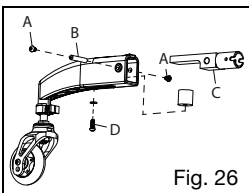

Fig. 26
2. Remove the 6mm screw from the side of the Dynamic 5th Wheel arm (Fig. 26:A) using two 4mm Allen wrenches.
3. Using an Allen wrench, push the threaded barrel (Fig. 26:B) out of the arm assembly.
4. Slide the tubular receiver (Fig. 26:C) out of the assembly.
5. Remove the 6mm screw located on the underside of the assembly. This will release the elastomer (Fig. 26:D). Remove the elastomer and set aside.
- Thread the 6mm screw and washer (Fig. 26:D) through the slot and into the threaded insert in the elastomer.
- Retighten the 6mm screw (Fig. 26:D). Take care to not overtighten.
- Reinsert the tubular receiver (Fig. 26:C) into the arm. Take care to place the flat arm of the tubular receiver over the top of the elastomer.
- Align the holes on the arm and the tubular receiver to insert the threaded barrel (Fig. 26:B) and 6mm (Fig. 26:A).
- Tighten the 6mm screws (Fig. 26:A) using two 4mm Allen wrenches.